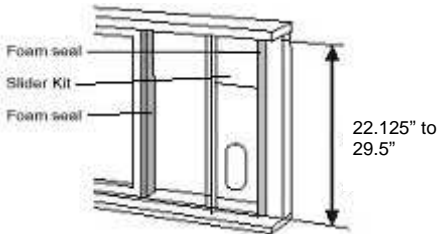

Fig 8
1. Trim foam seal (adhesive type) to the proper length and attach to window frame. (Fig.8)
2. Adjust the length of the slider kit according to the height of window. Attach slider kit against foam seal. (Fig.8)
3. Trim the other foam seal (adhesive type) to the proper length and attach to side of sliding window panel. (Fig.8)